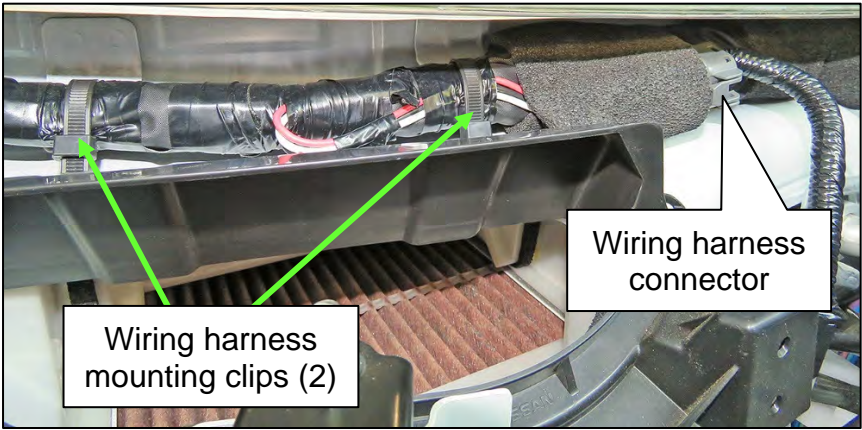

Figure 130
- 197. Reattach the two (2) Engine Control Harness mounting clips (Figure 130).
- 198. Reconnect the wiring harness connector (Figure 130).